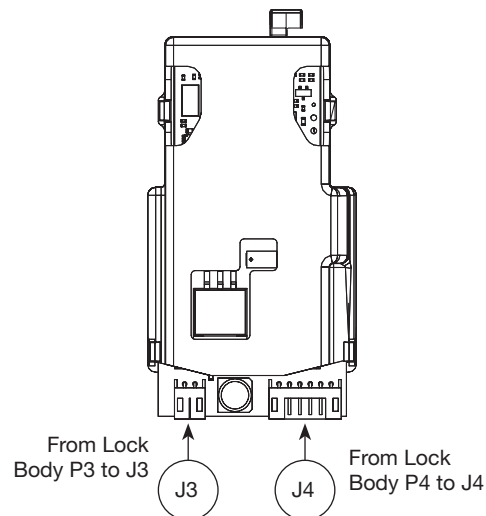

Fig. 11
- Connect P3 (2-pin connector) from lockbody to J3 on module (Fig. 11).
- Connect P4 (6-pin connector) from lockbody to J4 on module (Fig. 11).